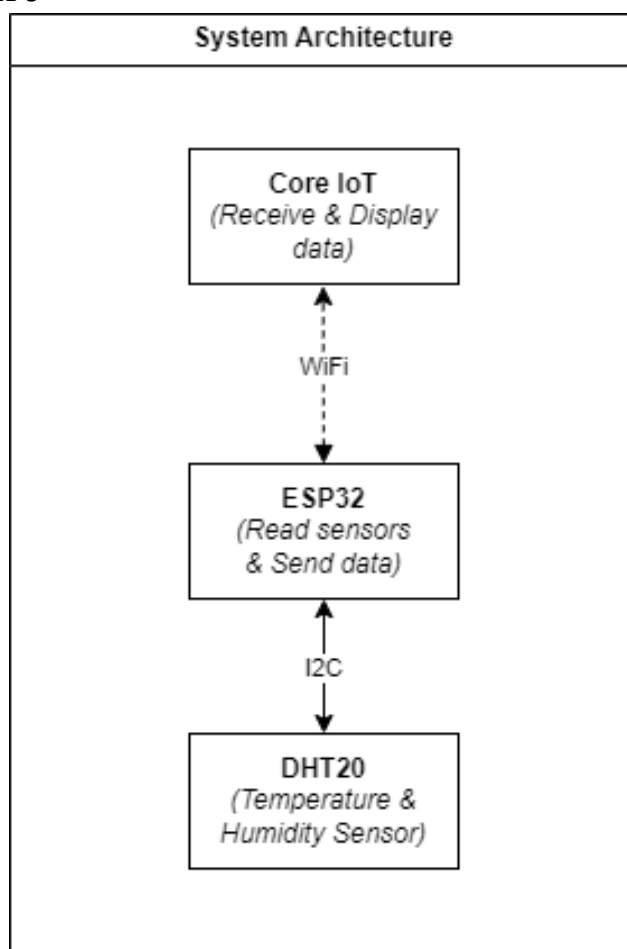

Figure 1. System Architecture
- Figure 1. System Architecture